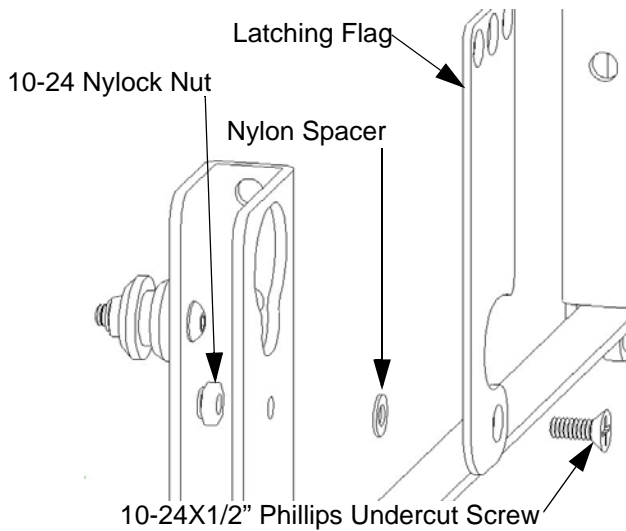

Figure 4. Install Latching Flag
2. Install the latching flag (70) using the 10-24X1/2" Phillips undercut screw (80), Nylon spacer (90) and 10-24 Nylock nut (60) (see Figure 4).